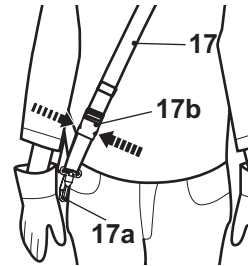

Fig. 8
- In case of emergency hold the soft grip (9) of the front pole (8) with the left hand, and use the right hand to press two clips of the quick release (17b). The product together with the securing clip (17a) will be released automatically from the body because of the weight of the product (Fig. 8).